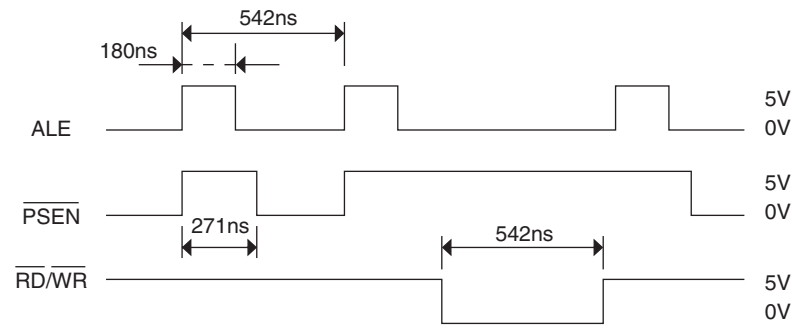

Figure B-3-3
• Yes Are ALE, $\overline{\text{PSEN}}$, $\overline{\text{RD}}$, $\overline{\text{WR}}$, signals as specified in Figure B-3-3?